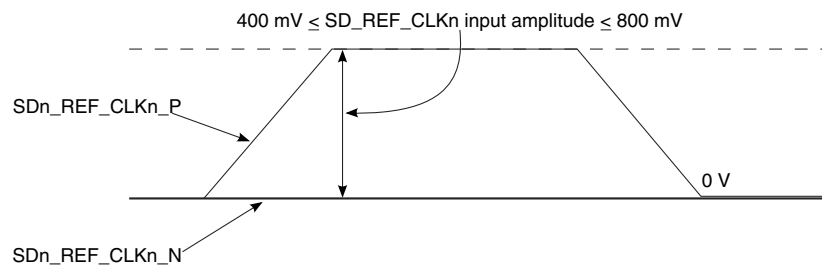

Figure 35. Single-ended reference clock input DC requirements
- The SDn_REF_CLKn_P input average voltage must be between 200 and 400 mV. Figure 35 shows the SerDes reference clock input requirement for single-ended signaling mode.